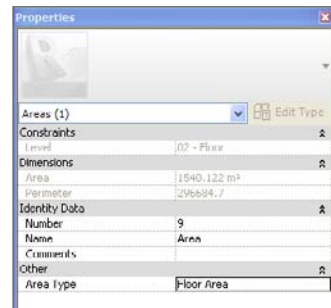

Figure 11.19
14. In the Properties palette, make sure that Area Type is set to Floor Area, as shown in Figure 11.19.